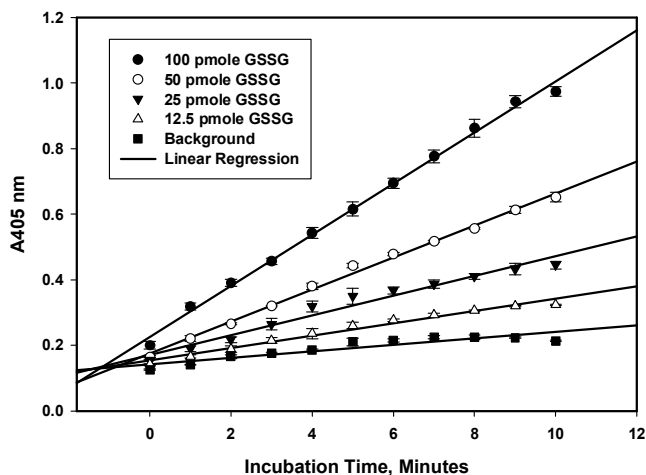

Figure 3. Plot of absorbance at 405 nm versus incubation time as a function of pmoles of GSSG/well
2. Plot the average of each standard, sample, and background absorbance (A405 nm) versus incubation time and determine the **slope** from the linear portion of each curve (Figure 3).
1. Follow the procedure described above for generating the Standard GSSG curves (Figures 3 and 4) for the 4-vinylpyridine treated standards.